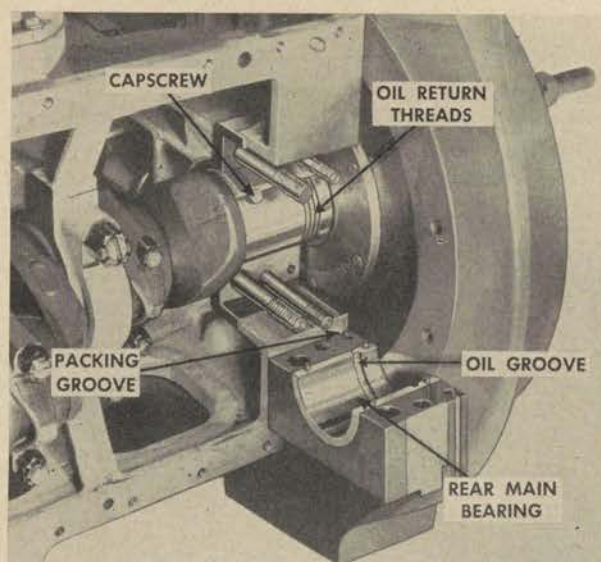

Figure 160. Installing upper bearing shell (engine on side).
5. The upper main bearing shells, where the crankshaft journals are drilled, can be rotated out of position by using a small capscrew (fig. 160) in the oil hole, and turning the crankshaft. If a bearing shell is tight, place a short piece of key stock between the edge of the shell and the capscrew to prevent damaging the shell.
2. The flywheel end of the rear main bearing is bored .005-inch larger in diameter (fig. 160) and consequently the crank shaft should not touch this part of the bearing. This counterbore provides for oil control by permitting the oil return threads on the crank shaft to pump oil back to the oil groove,